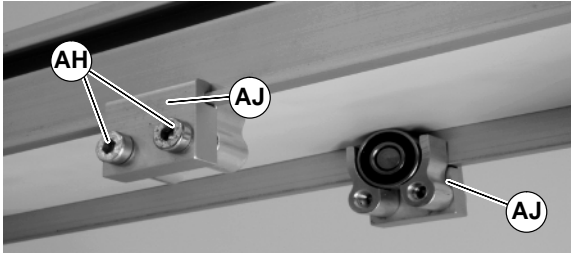

Figure 14
- Install roller assemblies (AJ of Figure 14) as shown. Tighten screws (AH) to 60 in-lb (7 Nm).